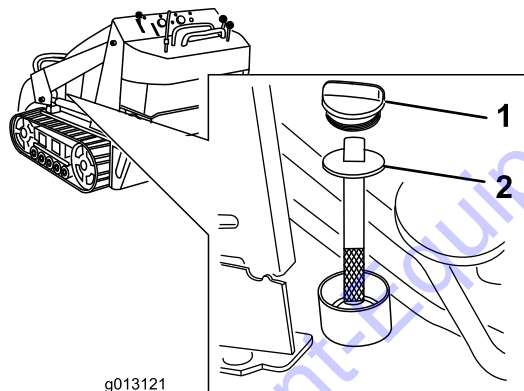

Figure 61
5. Clean the area around the filler neck of the hydraulic tank (Figure 61).
6. Remove the filler-neck cap and check the fluid level on the dipstick (Figure 61).